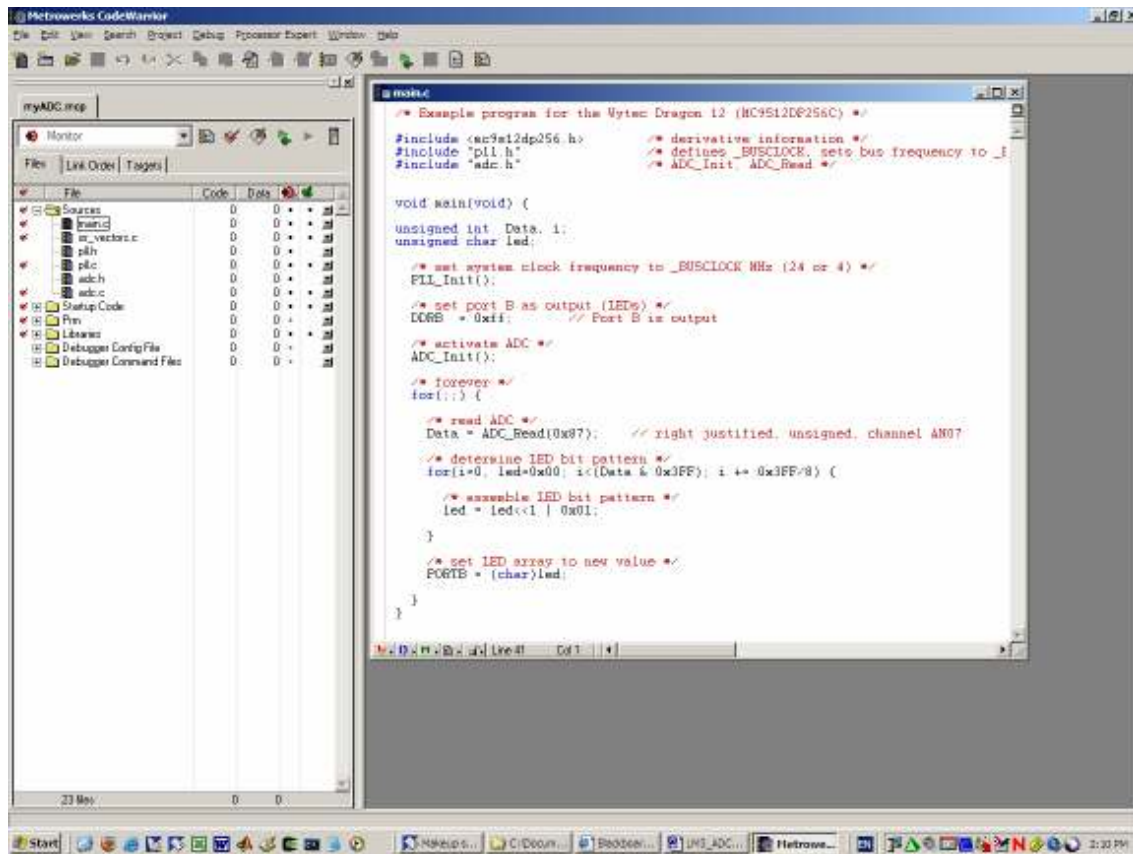

Figure LM3-3 Adding files *adc.c* and *adc.h* to project group *Sources*
- (4) Having created *ADC.c* and *ADC.h* you will have to add both files to the *Sources* group of your CodeWarrior project. This can be done by right-hand mouse clicking onto *Sources* and selecting *Add Files...*. Upon adding the source files your project browser should look as shown in Figure LM3-3.